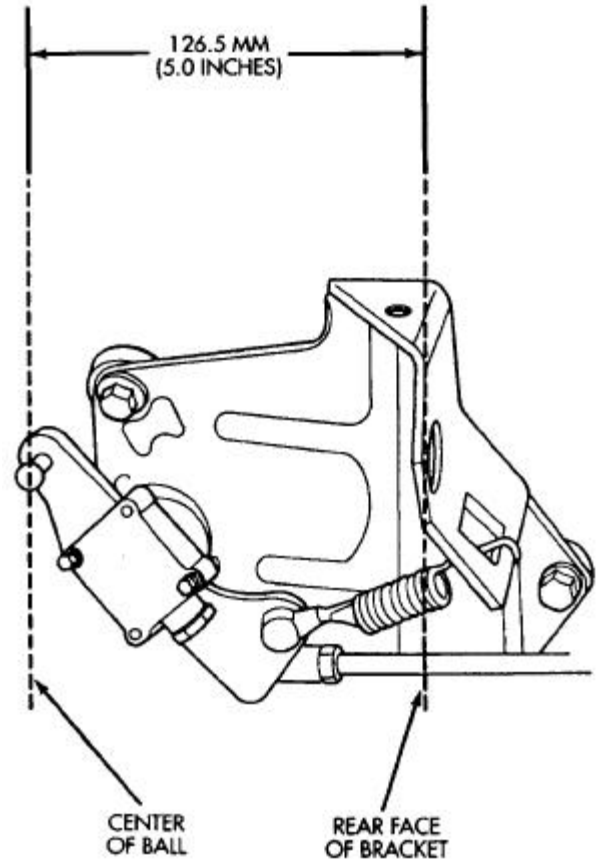

Figure 11
47. Measure the distance between the center of the primary bellcrank ball stud and the rear face of the cable mounting bracket (Figure 11). If it is five (5) inches (126.5 mm) continue with step 48. If the throttle rod is out of specifications, adjust it as follows:
CAUTION: Do not lengthen or shorten the linkage rod more than 3/64 inch (1 mm) from the dimension shown in Figure 11. If voltage requirements cannot be achieved by linkage adjustment, replace the TPS.